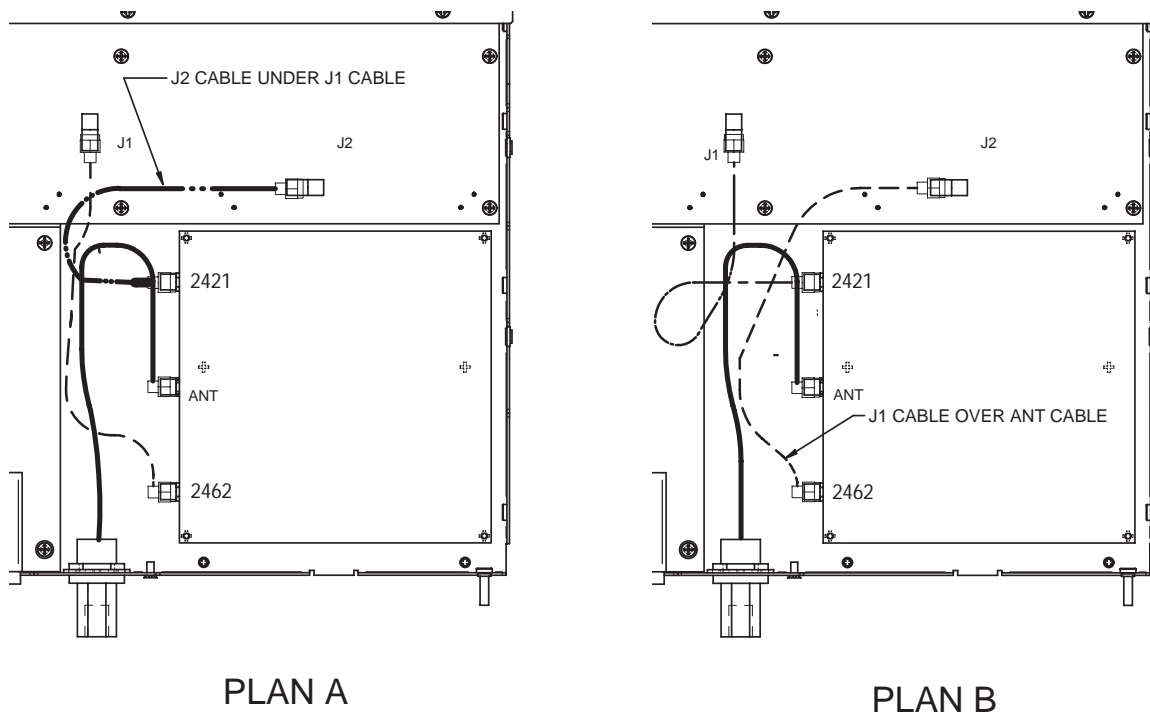

Figure 3. TRACER 4106 Cable Routing Diagrams
- Carefully flex the cables to swap the connections. Be careful with the RF cables, making sure that the minimum bend radius of the cable is greater than 0.75"; bends and loops smaller than a quarter will cause the RF cable to break. Use the wiring guidelines in Figure 3 and Figure 4 on page 4 for help with wire placement. Click here for a digital picture of this step.